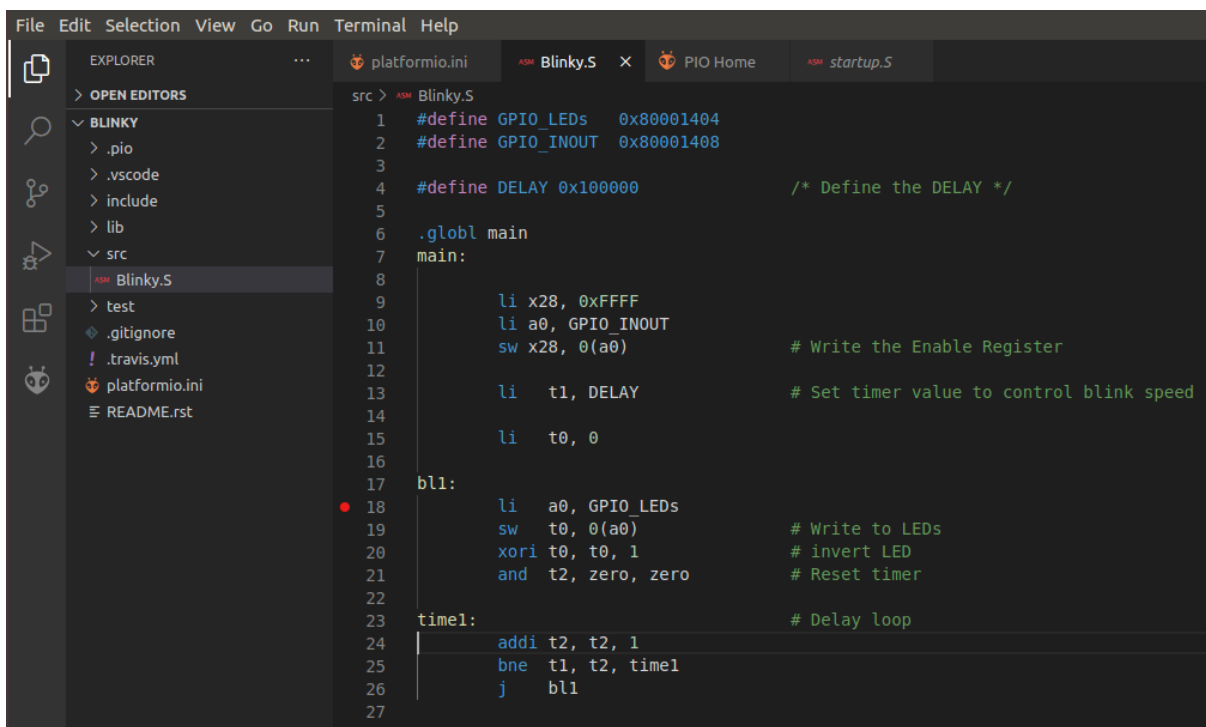

Figure 25. Setting a breakpoint in blinky.S
Step 12. Create a breakpoint by clicking to the left of line number 18. A red dot will appear, and the breakpoint will be added to the BREAKPOINTS tab (see Figure 25).